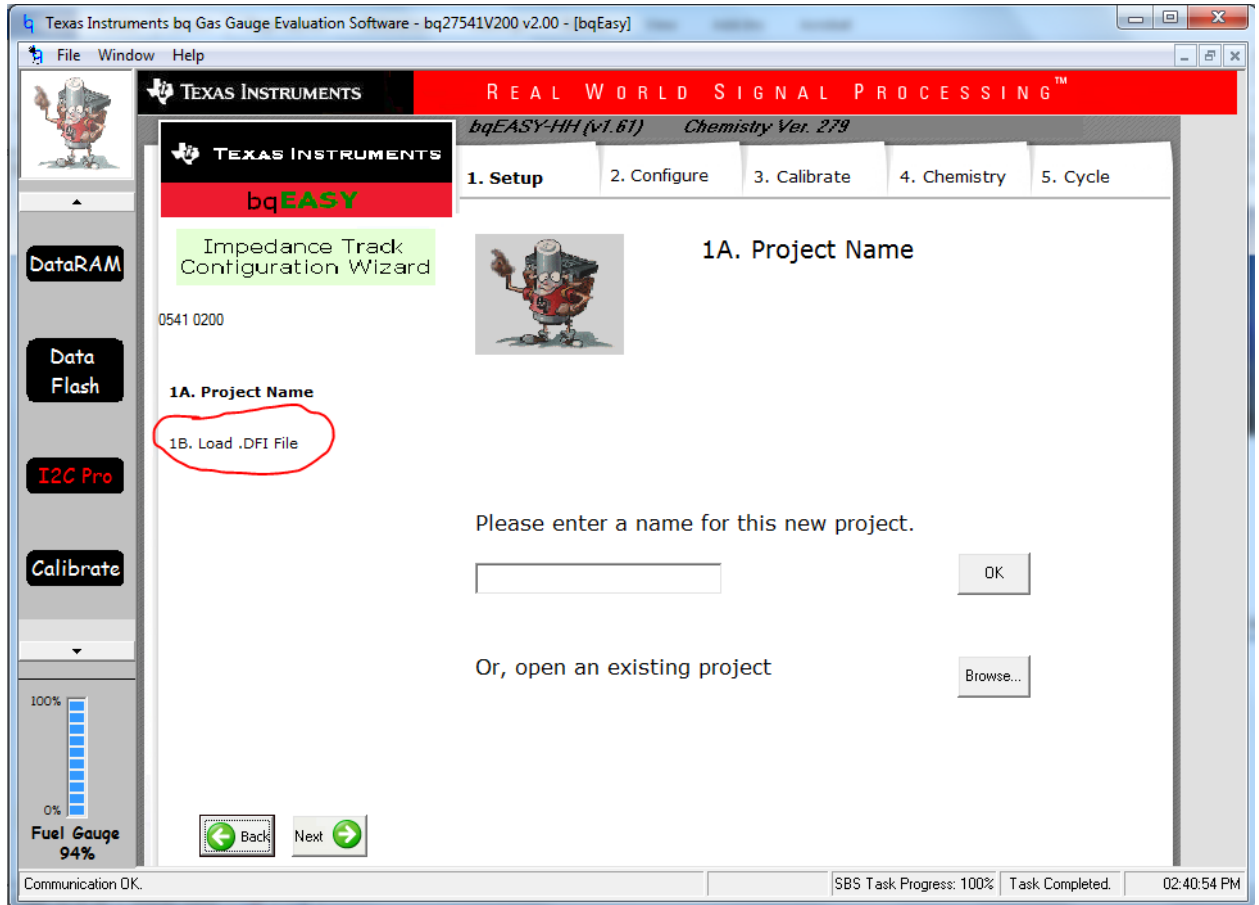

Figure 4: Load .DFI File in bq Evaluation Software
5. Click on Load .DFI File as shown in Figure 4.